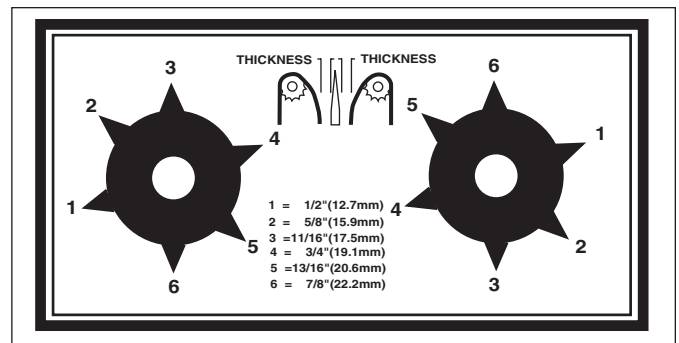

Figure 6. Bun Thickness Adjustment Controls
1. Set the Bun Thickness Adjustment Control knobs to the desired settings (Figure 6). The recommended setting is 6.